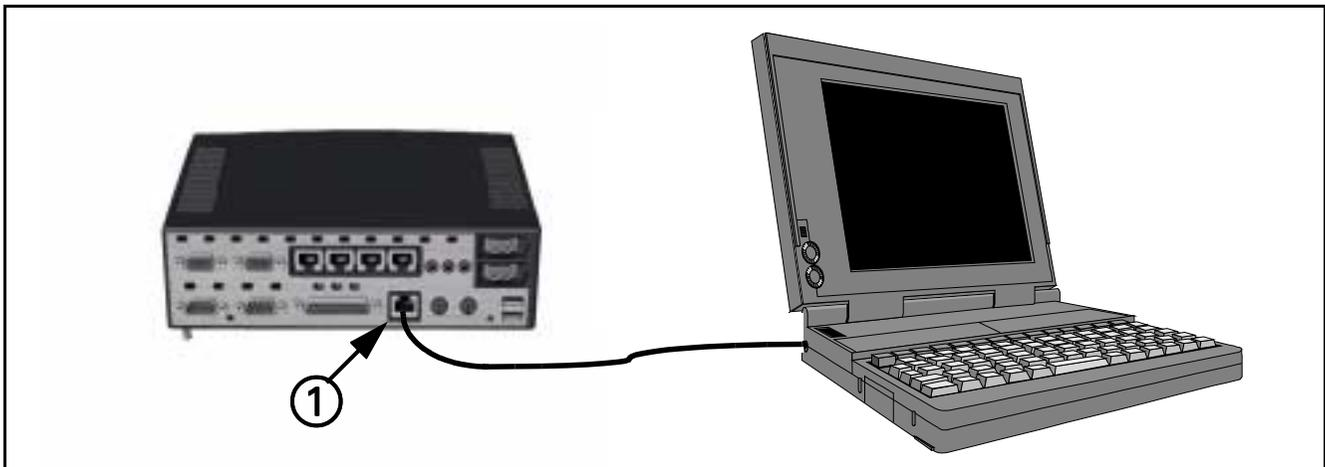

Figure 3-11 MDS, Laptop Hardware Connection
1. Connect Crossover Cable from Laptop Network Interface Card Ethernet Port to MDS Main Ethernet Port (① in Figure 3-11).